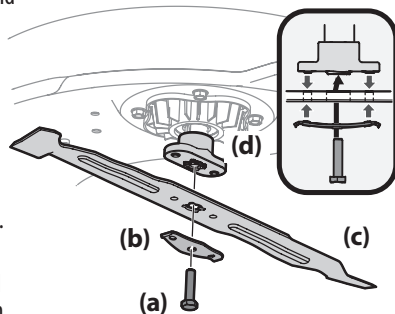

Figure 25
3. Remove the hex screw (a) and the blade bell support (b) which holds the blade (c) and the blade adapter (d) to the deck motor. See Figure 25.
4. Remove blade (c) and adapter (d) from the deck motor spindle. See Figure 25.